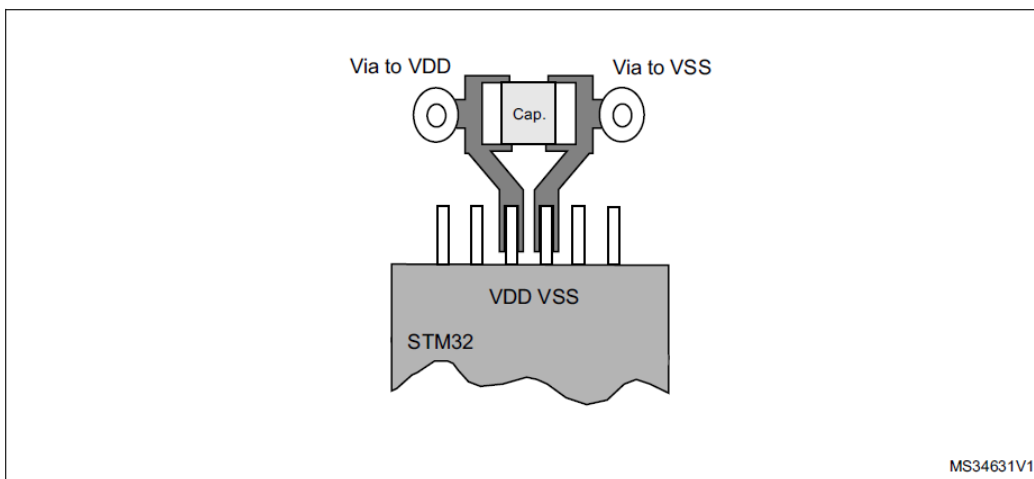

Figure 13. Typical layout for VDD/VSS pair
- Figure 13 decoupling capacitor device